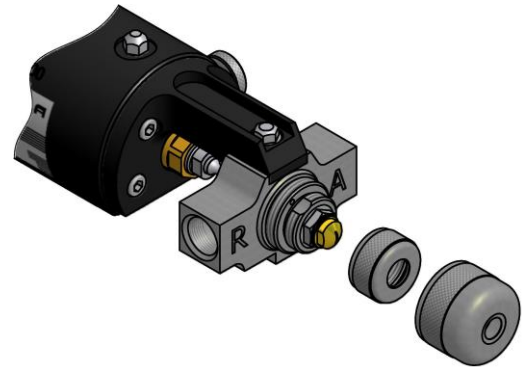

Figure. 10
9. Remove the diffuser and the PCD nut, turn them anti-clockwise with your hand and clean them with gun-cleaning solvent (see **Figure. 10**).
7. Remove the diffuser and the PCD nut by turning them anti-clockwise with your hand and clean them with gun-cleaning solvent (see **Figure. 10** page 14).